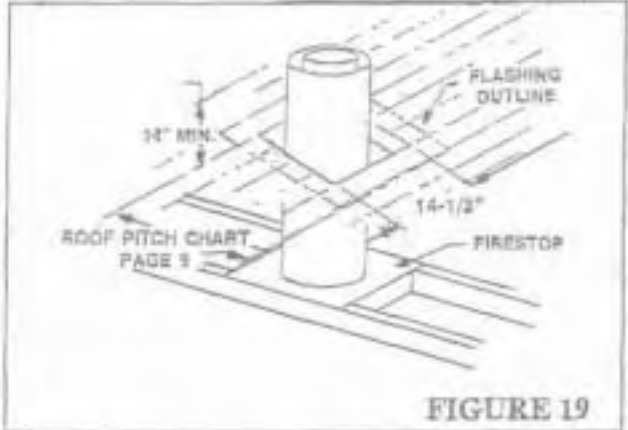

FIGURE 19
STEP 5: After cutting the hole in the roof, uncover the pipe and add sections until the chimney extends a minimum of 14 inches above the highest point of the roof cutout (Figure 19).
STEP 6: When the clearance between outer pipe and roof joist is less than 2", a roof joist shield (RJS-8D) is required. Slide the roof joist shield over the outer pipe. It must be positioned to cover the joist at all points around the chimney pipe. If necessary, trim the shield slightly to match the slope of the roof. Attach the shield to the joists using the straps provided (See Figure 19).
STEP 7: Position the flashing over the chimney and flat on the roof. Mark an outline of the flashing on the roof and remove the flashing. Remove all nails within the outlined area (Figure 19).